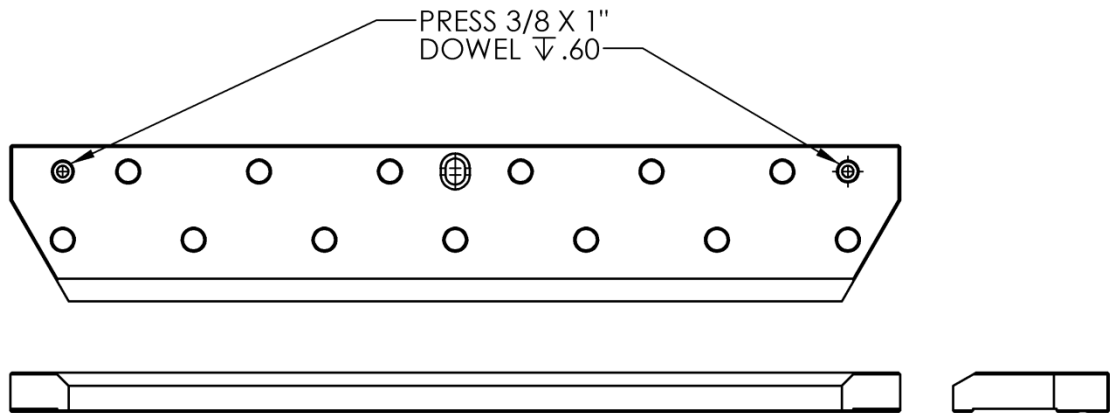

Figure 19
1. Apply dowel pins as shown Figure 19.